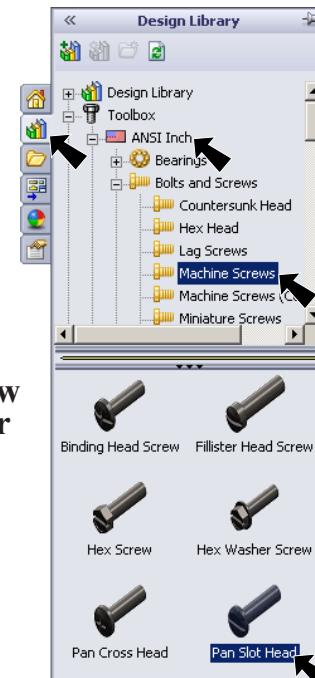
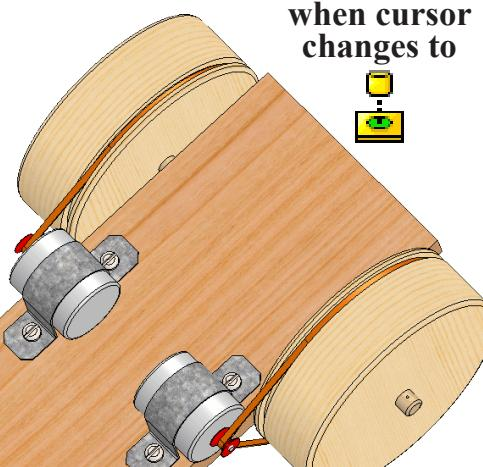

Fig. 2
Fig. 3
Step 1. Click the **Design Library** tab  in the Task Pane, **Fig. 2**.
Step 3. In the lower pane, click the **Pan Slot Head** screw, **Fig. 2**. Drag screw towards a hole in a sheet metal part. Move the tip of your cursor to the edge of a hole, **Fig. 3**. When the screw snaps into place and the pointer (cursor) changes to  concentric and coincident mate, release the screw.